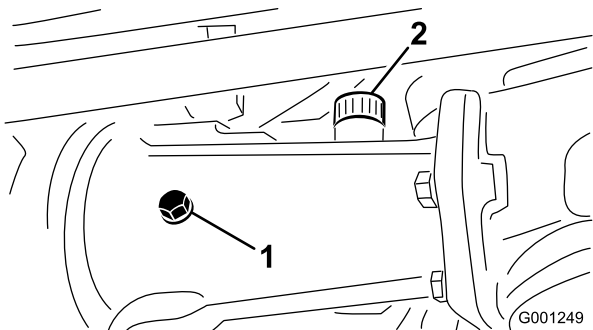
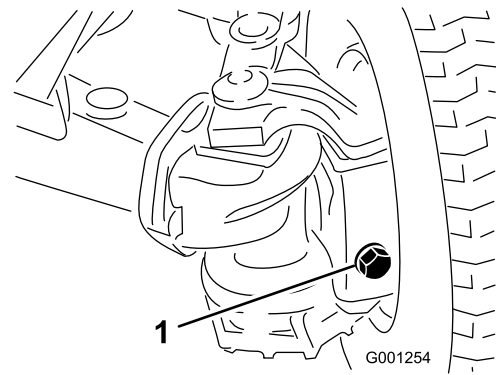

Figure 17
Figure 18
2. Remove the check plugs from the axle and make sure the lubricant is up to the bottom of each hole. If the level is low, remove the fill plugs and add enough lubricant to bring the level up to the bottom of the check plug holes (Figure 17 and Figure 18).